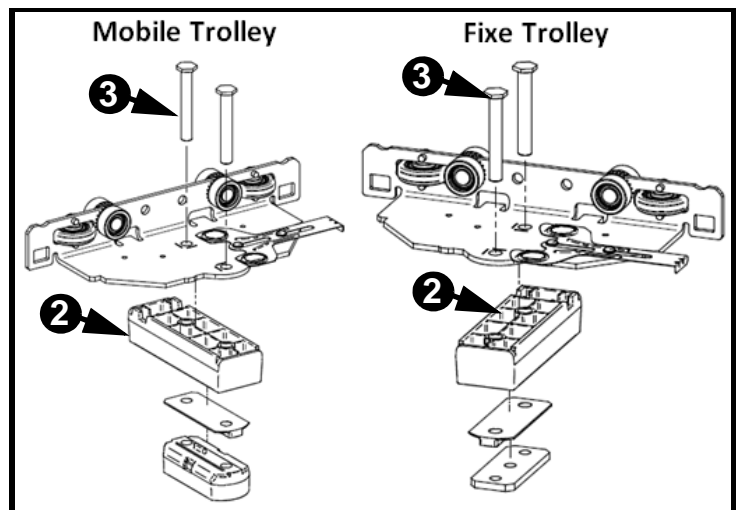

Fig. 25
2) Add the spacer and carefully re-install all components in the correct position and sequence as shown in Fig. 25.